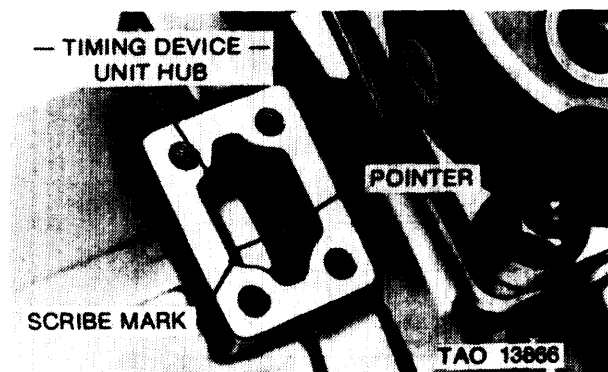

Figure 3-168. Aligning scribe mark on timing device hub with timing pointer.
e. Slowly continue to rotate the drive hub in a clockwise direction (as viewed from the drive end) until the test oil begins to form droplets at the end of the U-tube. Slowly continue to rotate the drive hub until the test oil flows freely and then diminishes and stops. This is port closing. The scribed mark on the advance unit hub should now be alined with the pointer (fig. 3-168) and the slotted, red painted tooth in the timing window should be one tooth to the right of the mark on the pump housing. If the above specification is not met, the hydraulic head, tappet assembly and/or camshaft must be replaced. If the plunger button is damaged, hydraulic head must be replaced.
3-55. Hydraulic Head Leak Test. *a.* Remove timing device cover, timing window cover or fuel shutoff housing. Rotate the drive coupling in a clockwise direction until the mark on the advance unit hub is aligned with the pointer (port closing) (fig. 3-168).